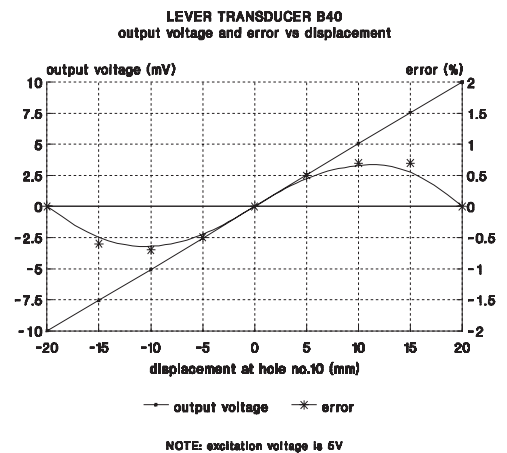
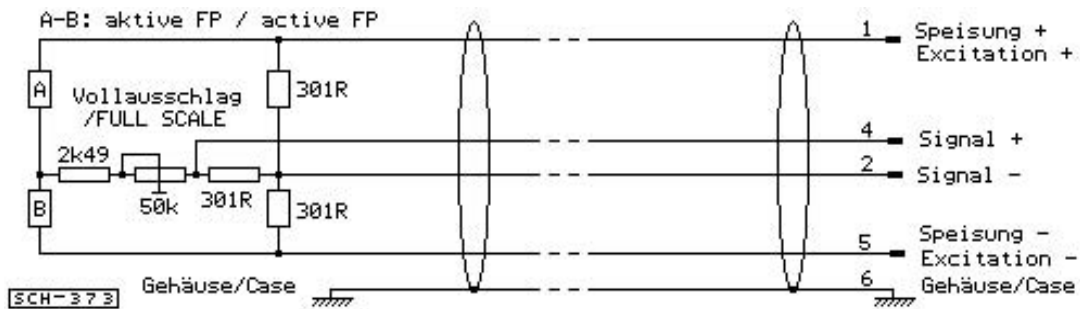

Fig. 3: Output curve and error signal
Fig. 6: Circuit of the B40 with standard plug connection
The field plates R1 and R2 are connected electrically with two replacement resistors to form a Wheatstone bridge circuit. The measuring system is adjusted so that the bridge is zeroed in the centre position. When the lever and with it the magnet is displaced in the direction of the angle α , the bridge is unbalanced. This out-of-balance of the bridge can be measured with the meter (I). In the case of the B40 the meter (I) and the battery (B) are replaced by a bridge amplifier (see Fig. 6). The diagram in Fig. 3 shows a typical output signal and the error curve of a B40 isotonic lever transducer.